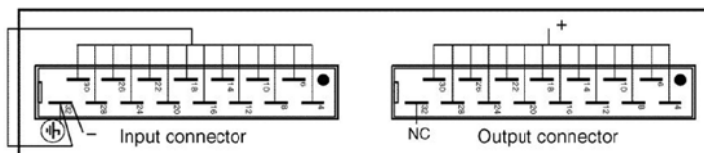

Figure 9. Output to case isolation voltage test.
4. Connect your isolation tester between output and case. See *Figure 9*.
5. Raise the voltage of the isolation tester from 0 to 2500 Va.c. The voltage should not be applied for more than one (1) minute or the Y-capacitors might be damaged.